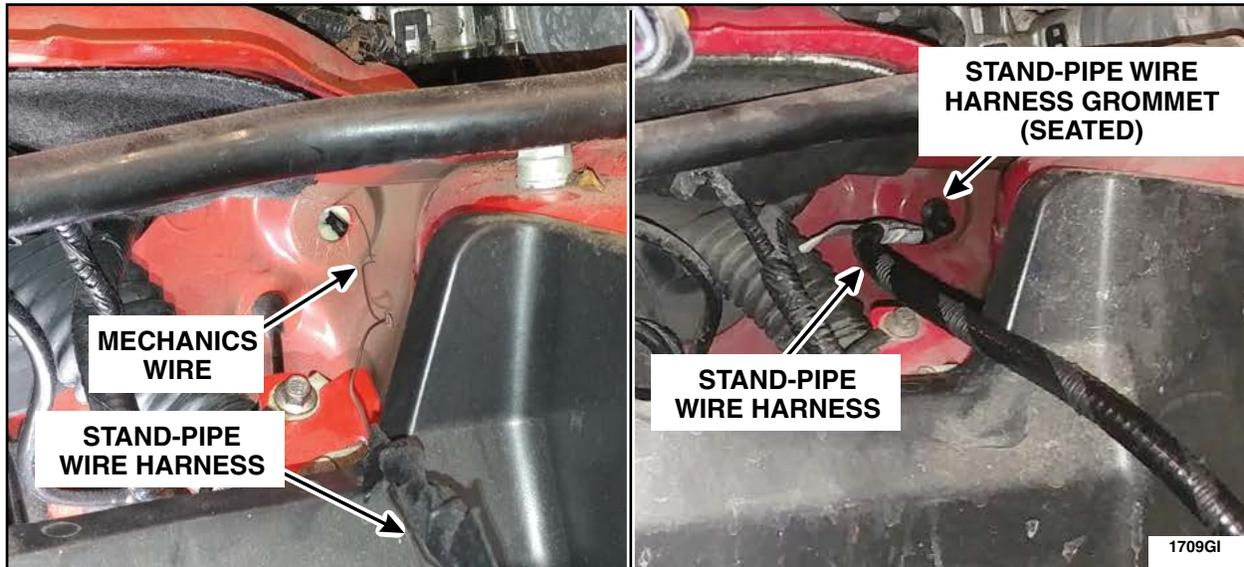

FIGURE D7
8. Fish the stand-pipe wire harness through the bulkhead, pull the grommet through the bulkhead and then back out slightly to seat the slot in the grommet in the bulkhead sheet metal. See Figure D7.